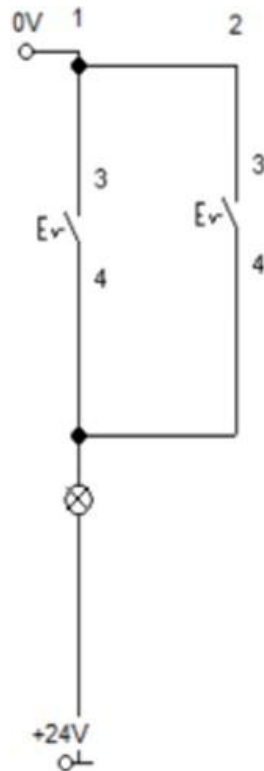

Figure 2.18: An OR logic circuit. The light P1 will turn on if pushbutton S1 OR pushbutton S2 is pressed.
**2. The OR Function (Parallel Circuit)** The OR function requires that **at least one input is true (ON)** for the output to be true (ON). The output is only false (OFF) if all inputs are false (OFF).
**Example: Starting a Machine from Two Locations** Imagine a long conveyor belt that needs to be started. An operator can press a start button (S1) at the beginning of the line, **OR** another operator can press a start button (S2) at the end of the line. Either button will turn on the motor. The circuit for this is shown in Figure 2.18.
1. **Rewire for Parallel:** Following the diagram in Figure 2.18, modify your circuit to connect the two pushbuttons (S1 and S2) in **parallel**.